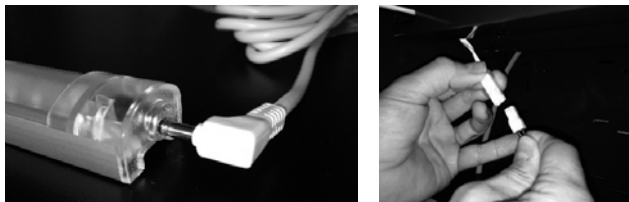

Fig. 5 Plug in LED bar (symbolic representation)
3. Plug LED bar into power supply (see → Fig. 5).